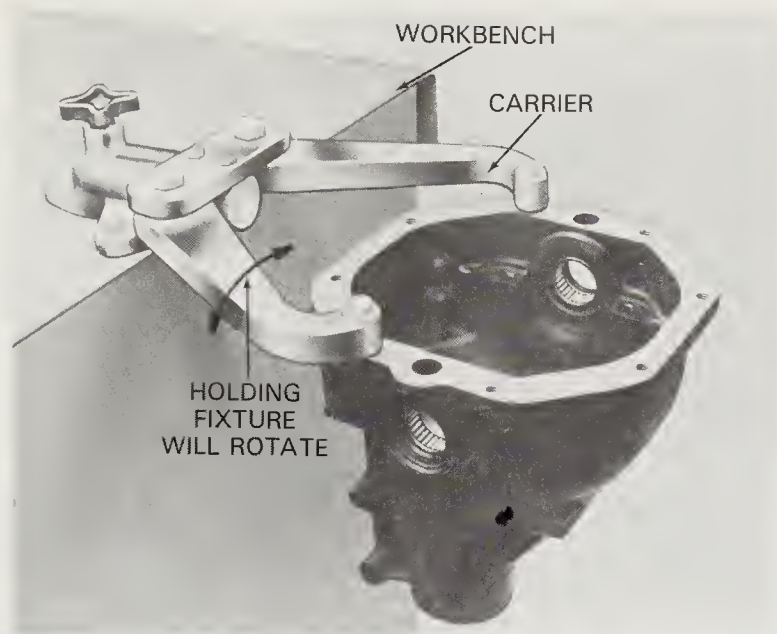

Fig. 59-14. Holding fixture is handy. It will let you swivel heavy differential carrier into different positions while working. (Owatonna Tools Co.)
3. Use a holding fixture for the differential, if available. One is shown in Fig. 59-14. It will make your work easier.